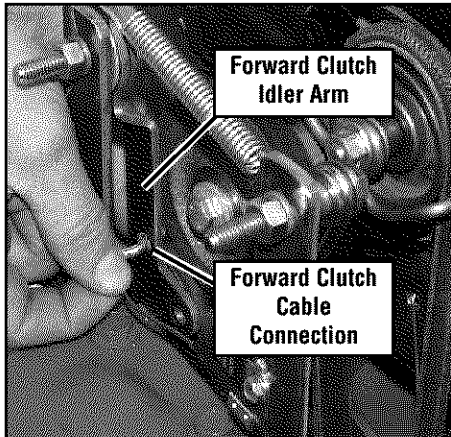

Figure 5-17
4. Disconnect the forward clutch cable from the forward clutch idler arm bracket (Figure 5-17). Note the hole from which you disconnect the cable. It is important that you reconnect the cable to the same hole.
5. Reconnect the forward clutch cable to the correct hole in the idler arm bracket, as shown in Figure 5-17.